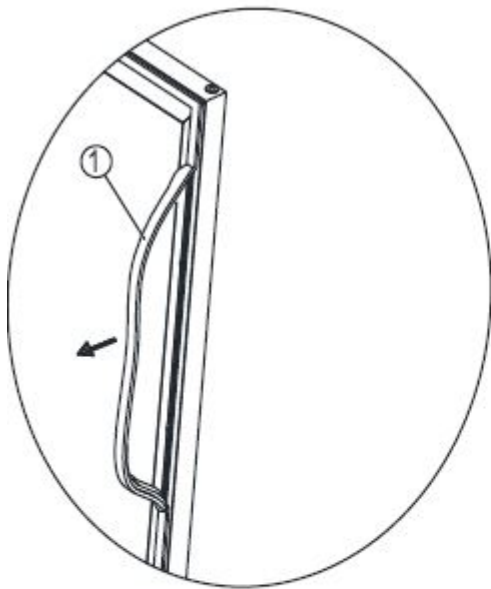

Fig .1
1. Pull away the door gasket from the area where the handle is to be installed, on the left side, as shown in Fig. 1. The gasket may be easily removed by hand, no tools are required.